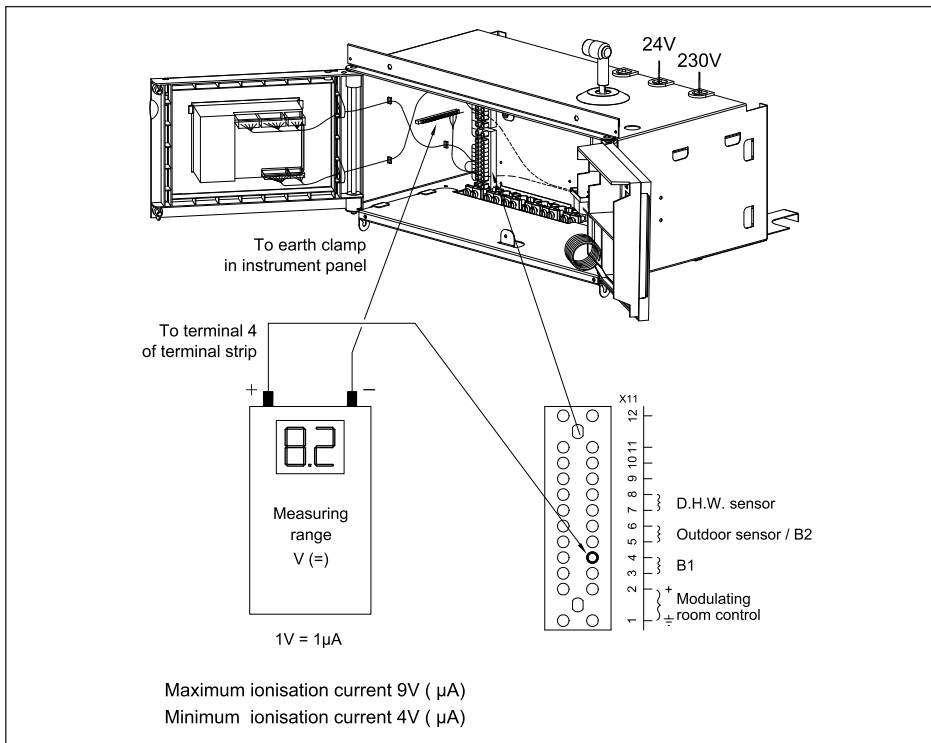

Fig. 23 Ionisation measurement
- check ionisation level, minimum 4 μA dc (ionisation measurement in Volts between terminal 4 and earthing, 1V dc \equiv 1 μA dc, see *Fig. 23*).